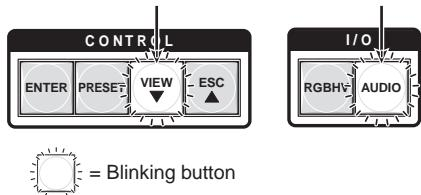

Figure 3-80 — RS-232/RS-422 and baud rate selection
3. To change a value, press and release the button that relates to the desired value (figure 3-80).